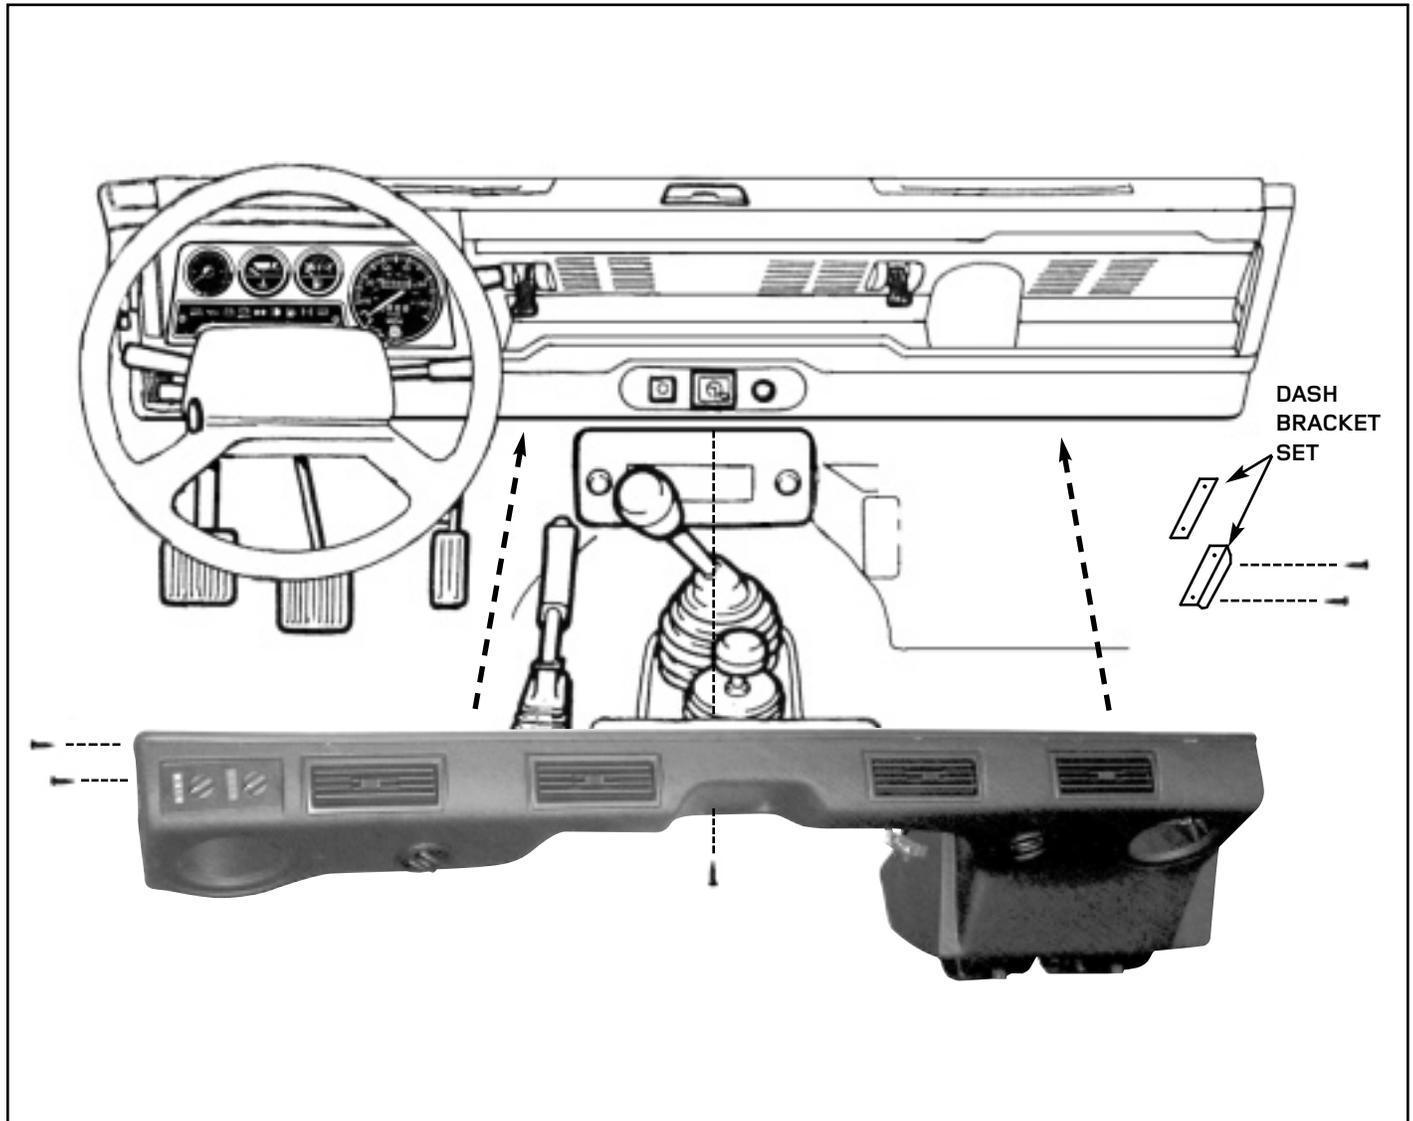

FIGURE 8
7. **Vehicles fitted with lower dash speakers**, drill out the two outer speaker fixing holes to 7mm diameter. Fit the two 90° dash brackets and weld nut brackets to the drilled out speaker holes as shown. (see figure 8, page 9). Vehicles without lower dash speakers; fit the 90° dash brackets using 1/4" x 1" self-tapping screws supplied in the kit. This is best done by temporarily attaching the brackets to the Air Conditioning fascia assembly lifting into place and marking bottom of dash for location. On dash bottoms that are not solid (but have a concealed speaker hole behind vinyl dash covering) it is necessary to cut out the vinyl and install the weld nut bracket as supplied.
8. **Lift the Air Conditioning fascia assembly** into position on the vehicle dash paying particular attention to correctly aligning the Evaporator pipe with the 2" hole in RH footwell (see figure 8, page 9).